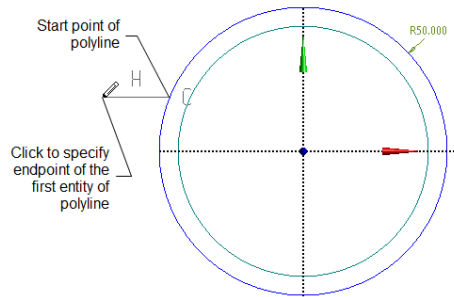

Figure 3-89 Creating the first entity of the polyline
20. Move the cursor near the circumference of the outer circle and click when the symbol of Coincident constraint (C) is displayed, refer to Figure 3-89.